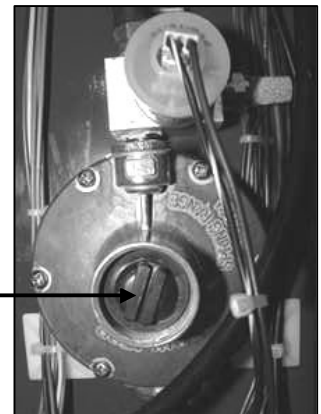

Figure 5
8. Be sure Tester's TEST function is still ON. Use a flat-blade screwdriver to adjust the system pressure until pressure reads 14" w.c. (see figure 5)